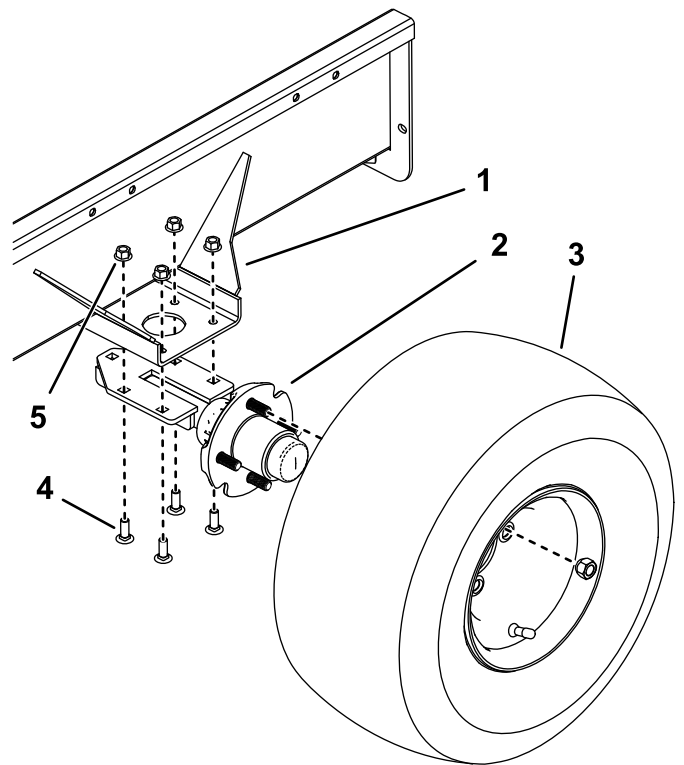

Figure 2
2. Using the 4 carriage bolts and 4 locknuts, mount an axle to the bottom side of the mounting brackets on each side of the trailer bed. Position the axle, carriage bolts, and nuts as shown in Figure 2.
3. Mount a wheel assembly to each axle hub with 4 lug nuts (Figure 2). Tighten the nuts to 80 ft-lb (108.47 N·m). Inflate the tires to 5 psi (34 kPa).